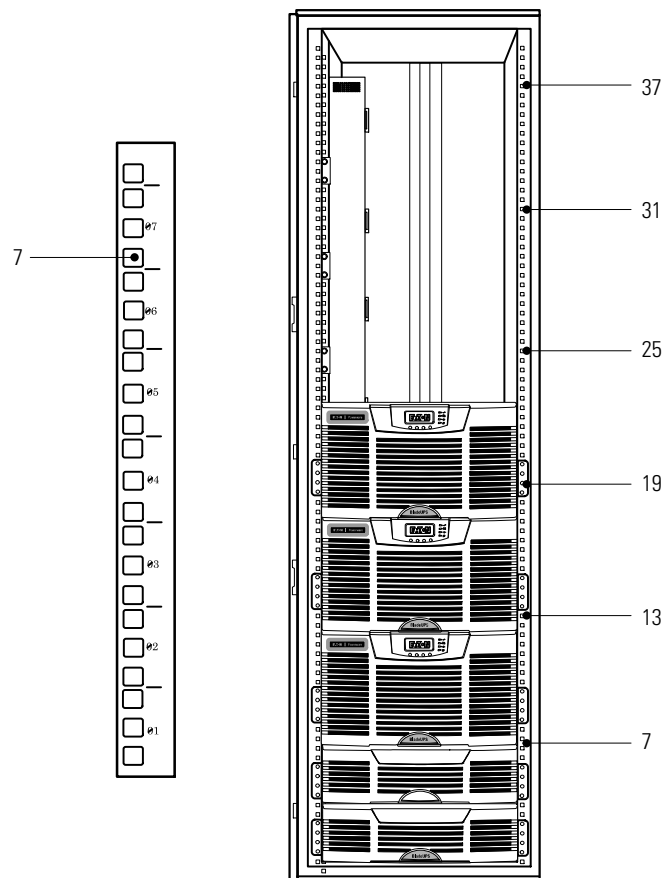

Figure 29. Recommended Rail Locations (Example Configuration)
8. Plan where each cabinet will be located in the rack and determine the “U” marks to use for mounting the rails. For example, for a rack containing six UPSs and a bottom wireway, plan to mount the bottom of the rails at the following marks (see Figure 29):
NOTE Recommended rail locations are for example only. Adjust the locations as needed for your system's configuration. Allow for hole spacing and numbering (see Figure 29). For guidelines for configuring a parallel system with EBMs, see page 3.